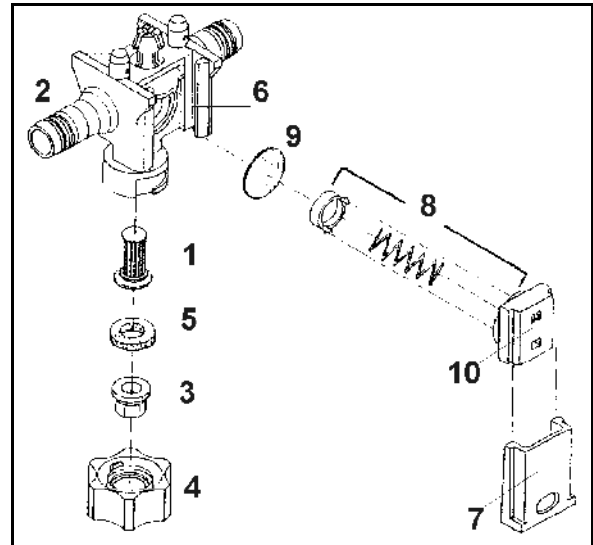

Fig. 174
From time to time, check the seating of the slider (Fig. 174/7).
- To do this, insert the slider into the nozzle body (Fig. 174/2) as far as possible using moderate thumb pressure.
1. Insert the nozzle filter (Fig. 174/1) into the nozzle body (Fig. 174/2) from below.
2. Insert the nozzle (Fig. 174/3) into the bayonet nut (Fig. 174/4)
3. Insert the rubber seal (Fig. 174/5) above the nozzle.
Deposits on the diaphragm seat (Fig. 174/6) can cause the nozzles to drip after the boom is shut-off. If this occurs, clean the diaphragm in question as follows:
1. Pull the slider (Fig. 174/7) out of the nozzle body (Fig. 174/2) towards the bayonet nut.
2. Remove the spring element (Fig. 174/8) and the diaphragm (Fig. 174/9).
3. Clean the diaphragm seat (Fig. 174/6).
Note the correct orientation for installing the spring element. For installation, the stepped, upwards-sloping edges on the left and right of the housing of the spring element (Fig. 174/10) must slope up in the direction of the boom profile.